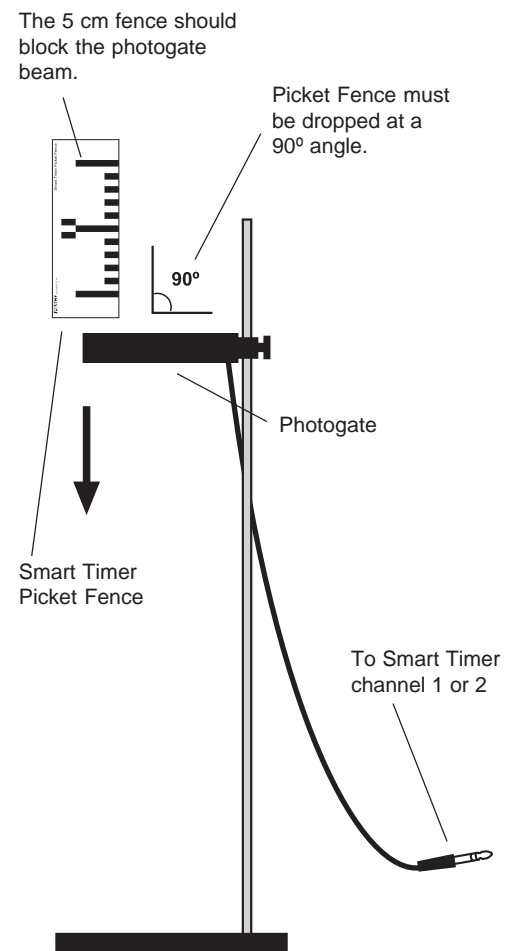

Figure 1.2
- I. Mount the photogate on a stand, or hold the Photogate steady so it is parallel to the floor, as shown in Figure 1.2.